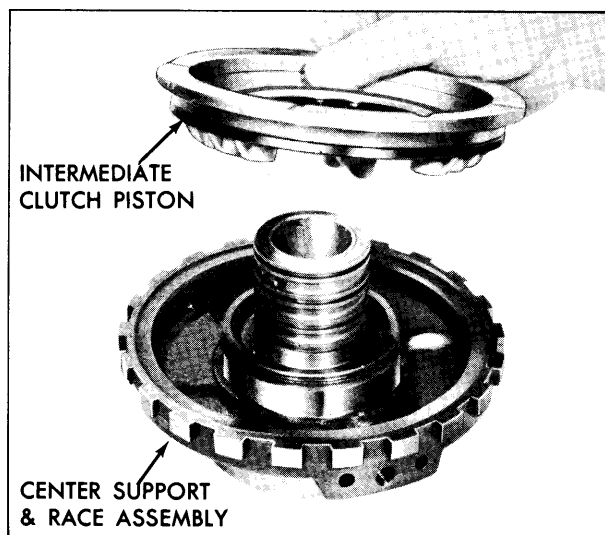

Fig. 7E-101 Removing Intermediate Clutch Piston
6. Remove and discard the outer piston seal, (Fig. 7E-103)